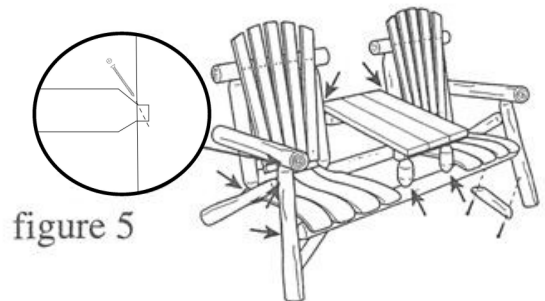

figure 5
STEP 5 With unit on a flat level surface, screw a brace onto each side; front leg to seat bottom as shown in figure 5. Secure all dowel joints with 2-1/2" screws. Insert screws perpendicular to the dowel as shown in the insert in figure 5.